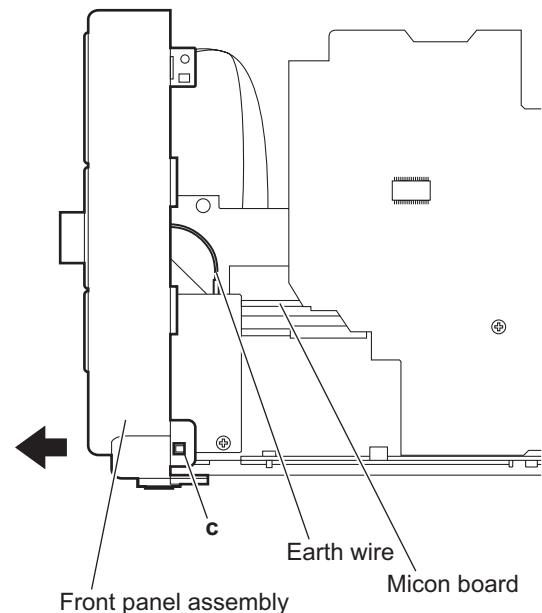

Fig.7
- (2) From the right side of the main body, disconnect the earth wire from the micon board. (See Fig.7.)